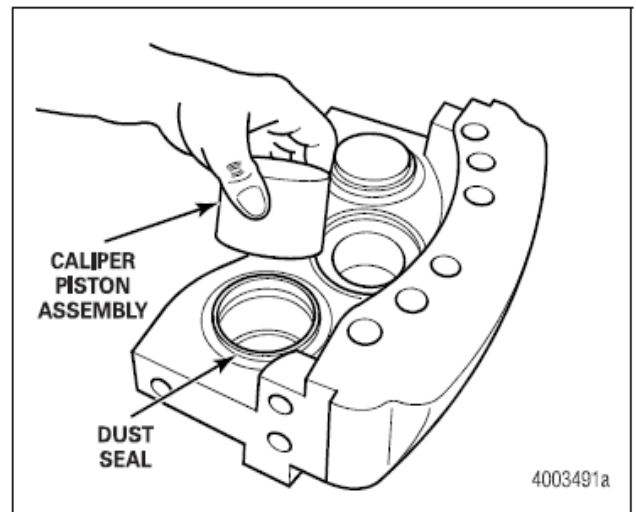

Figure 5.4
8. Install the four service pistons into the piston bores of each caliper housing. Verify that the piston pin is aligned with its hole in the housing. Figure 5.4.